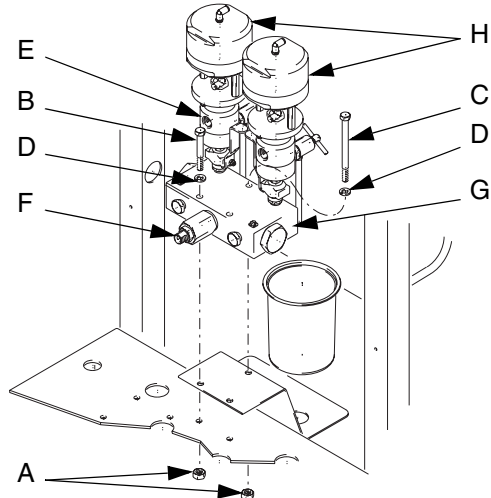

FIG. 1
2. Disconnect fluid supply lines from metering valve inlets (E). FIG. 1.
3. Disconnect pneumatic tubing from metering valves (H).
4. Disconnect mixed material hose from mix manifold outlet (F).
6. Remove nuts (A), screws (B, C) and lockwashers (D).
7. Remove metering valve manifold (G).